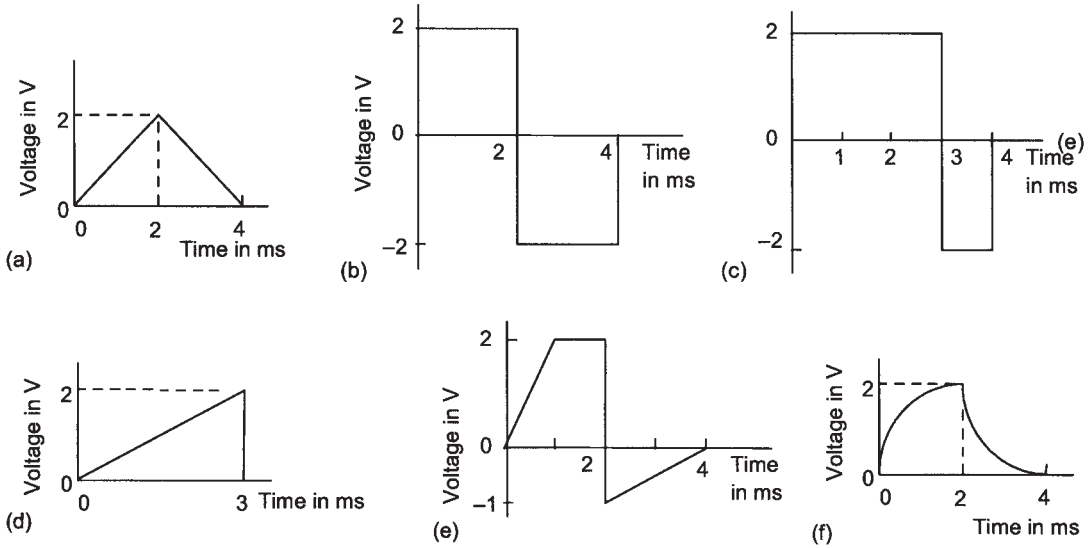

Figure 16.16 Problem 5
- 5 Determine the average values of the segments of waveforms shown in Figure 16.16.
- 6 Show that for a triangular waveform, of the form of the full cycle shown in Figure 16.16(a), with a maximum value of V_m that over half the cycle shown the average value is $0.5V_m$.
- 9 Show that the average value for a square waveform, as in Figure 16.16(b), over half a cycle is equal to the maximum value.
- 10 Show that the average value for a sawtooth waveform over half a cycle, as in Figure 16.16(d), is half the maximum value.
- 14 Show that the root-mean-square value of a triangular waveform of the form shown in Figure 16.16(a) and having a maximum value of V_m is given by $V_m/\sqrt{3}$.
- 19 Show that the root-mean-square value for a square waveform, as in Figure 16.16(b), over half a cycle is equal to the maximum value.
- 20 Show that the root-mean-square value for a sawtooth waveform over half a cycle, as in Figure 16.16(d), is the maximum value divided by $\sqrt{3}$.